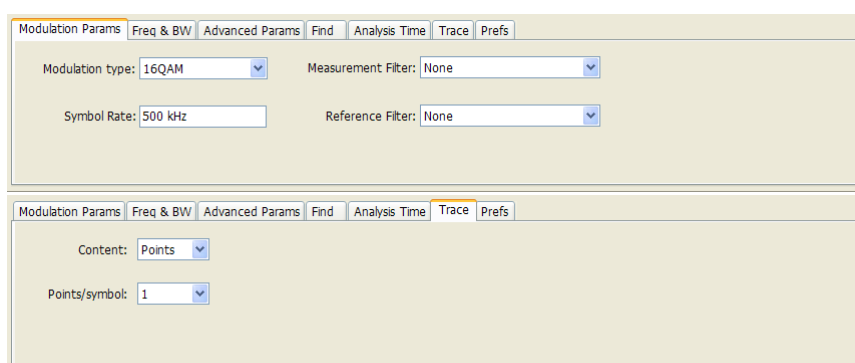

Figure 7. Settings for the constellation plot
- (!) 16. Select **Constellation** view and press the **Settings** button front panel. Select from **Modulation Params** tab modulation type **16QAM** and set symbol rate to be the same as in generator ie. 500 kHz. In the same tab are selections for filters disable them by selecting *None*. In **Trace** tab set **Content** to *Points* and **Points / symbol** set to 1. The settings view is shown in Figure 7. Constellation points should now be clearly visible. Are the constellation points equally distributed? Why/or why not?